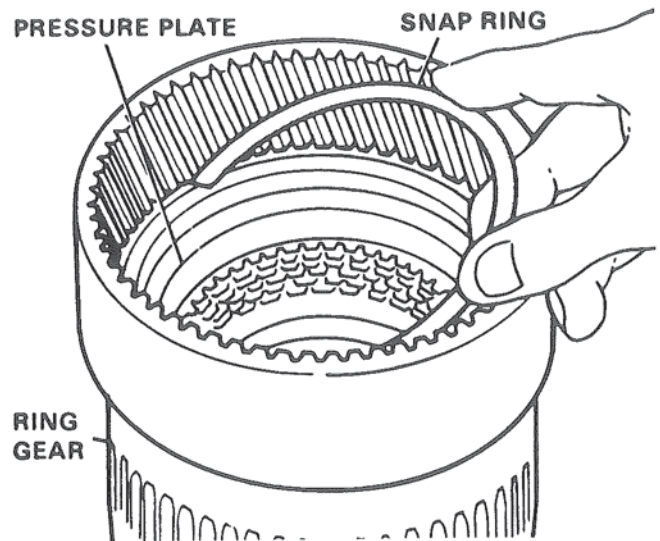

Figure 59. Installing Selective Snap Ring.
16. Install one, or more when needed, of the selective snap rings, as shown in Figure 59, to obtain a proper clutch plate clearance of .040 in. - .065 in.